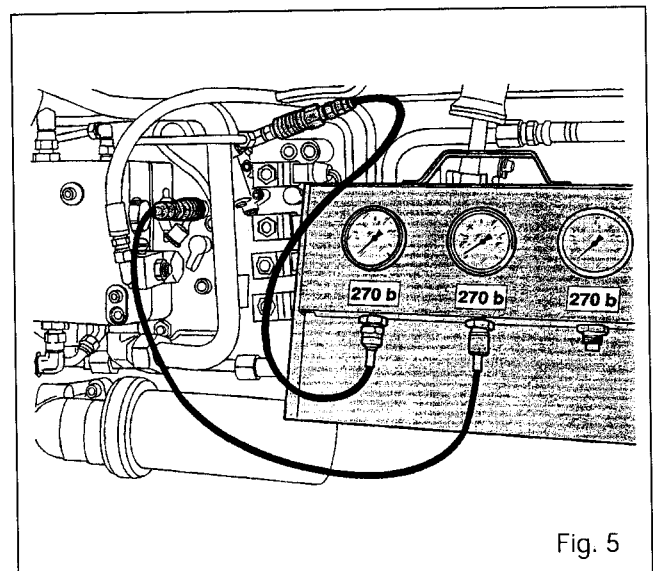

Fig. 5
- Connect a pressure gauge to each diagnostic connector located (Figures 5 and 6):